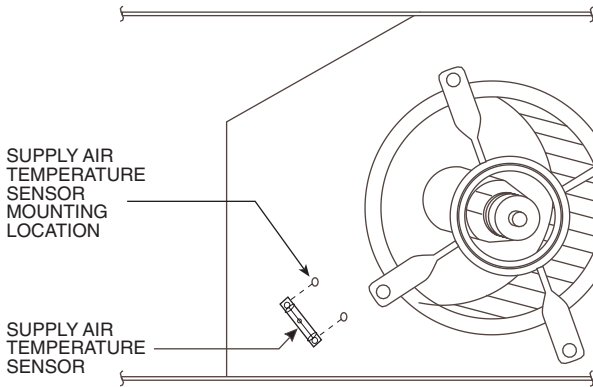

Fig. 34 — Supply-Air Sensor Placement
11. Mount the supply-air temperature sensor to the lower left portion of the indoor blower housing with the two (2) screws provided (see Fig. 34). Connect the violet and pink wires to the corresponding connections on the supply-air temperature sensor. Replace the indoor fan motor access panel.